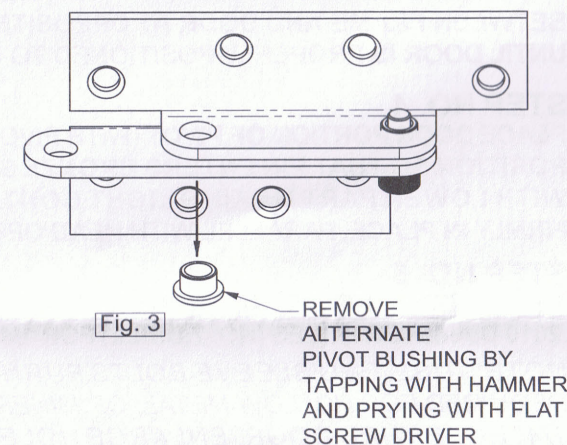

Fig. 3
- REMOVE THE PIVOT BUSHING THAT IS NOT BEING USED TO PREVENT INTERFERENCE. (Fig. 3 SHOWS THE B1921 / B1923 PIVOT ASSEMBLY AS BEING LEFT HANDED).